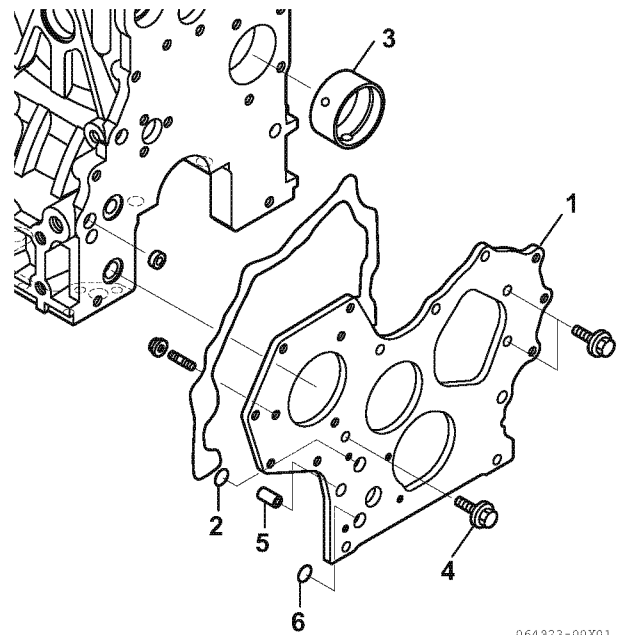

Figure 6-93
1. If removed, install a new camshaft bushing (3, **Figure 6-93**) using the appropriate service tool.
3. Reinstall the dowels (5, **Figure 6-93**) and two new O-rings (2, **Figure 6-93**).
4. Reinstall the gear case flange (1, **Figure 6-93**). Tighten the bolts to the specified torque.